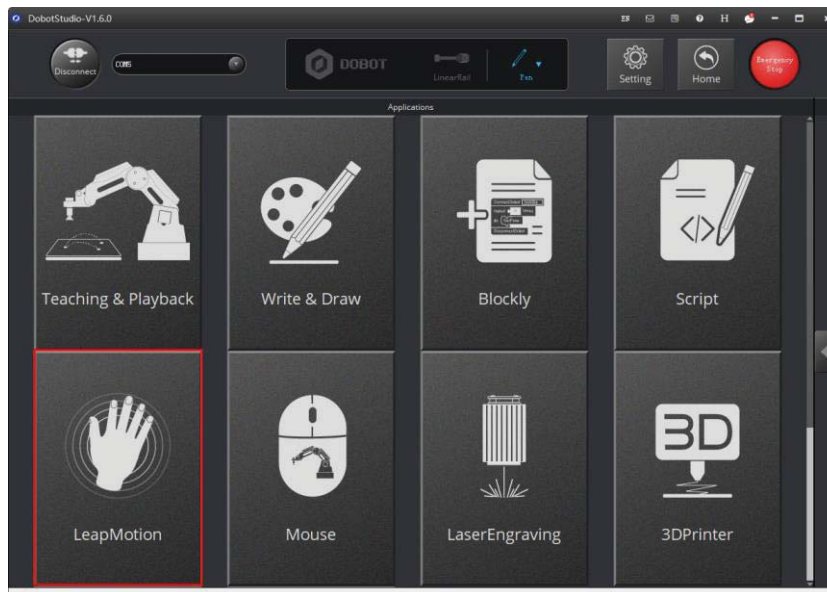

Figure 5.107 Click LeapMotion
- Step 2** Click **LeapMotion**, as shown in Figure 5.107.